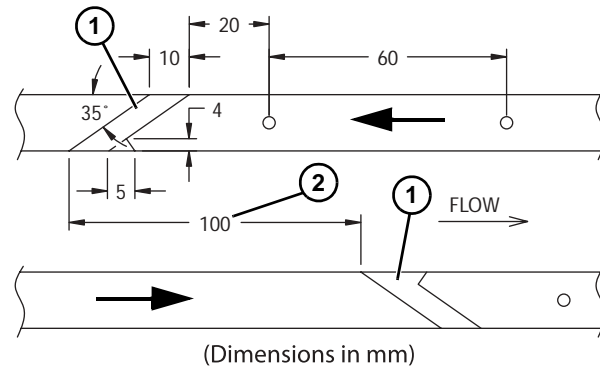

Figure 35
3. Do not place two slide rail joints (**Figure 35, item 1**) opposite each other. Make sure there is a distance of at least 100 mm (**Figure 35, item 2**) between them to make the chain run smoother. This does not apply to slide rail that begins by an idler unit or after a drive unit, where joints are always parallel.